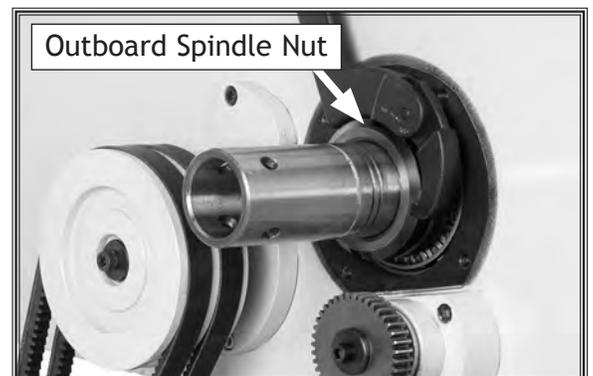

Figure 67. Loosening outboard spindle nut.
5. Using a spanner wrench or hammer-and-punch, loosen the outer spanner lock nut (**Figure 67**) by turning it counterclockwise, then remove it.